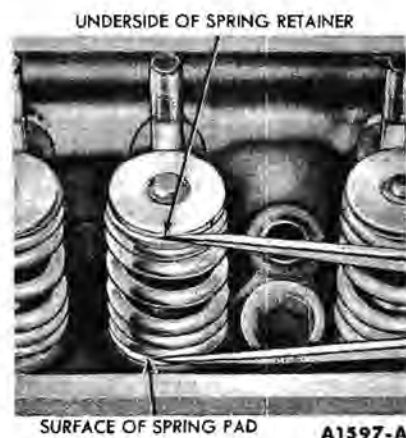

FIG. 28—Valve Spring Assembled Height
3. Measure the assembled height of the valve spring from the surface of the cylinder head spring pad to the underside of the spring retainer with dividers (Fig. 28). Check the dividers against a scale. If the assembled height is greater than specifications, install the necessary 0.030-inch thick spacer(s) between the cylinder head spring pad and the valve spring to bring the assembled height to the recommended height.